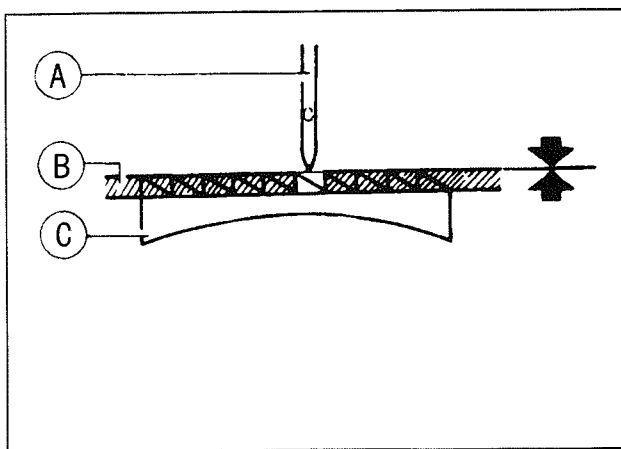

Fig. 27
20. TIME FEED MOTION TO NEEDLE MOTION (Fig.27,28,29)
The standard timing of feed motion to needle motion is that the top of feed Dog (C) is flush with Throat Plate Surface (B) when the point of Needle (A) reaches Throat Plate Surface (B). See Fig.27 .